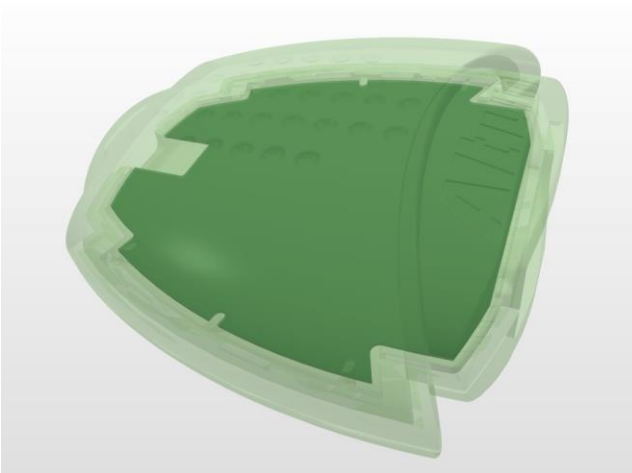

Figure 8. A Final Assembly in 3D Mode with the enclosure opacity set to 25%
26. Back in 3D, you can enable the visibility of the *Case - bottom half-2* and *Case - top half-2* by clicking on the blue cones in the *PCB* panel to change their opacity. The result should look similar to Figure 8.